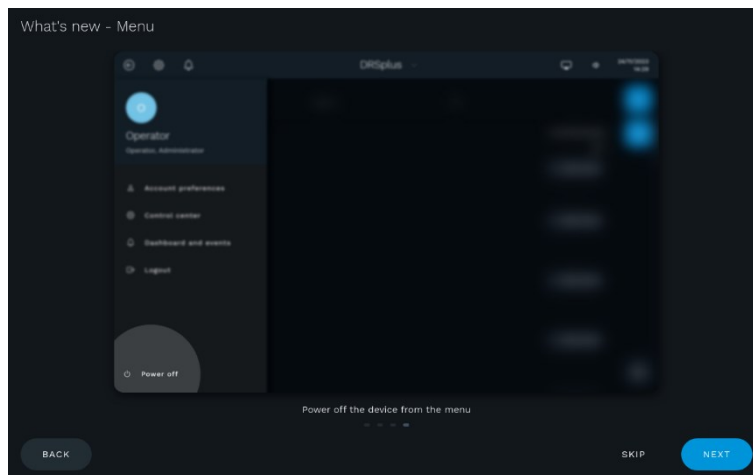

Fig. 25 - What's new
12. See an overview of the basic functions of the device and the improvement introduced by the actual software version (Fig. 25). Click **NEXT** to go through the different pages, click **SKIP** to proceed with the configuration.